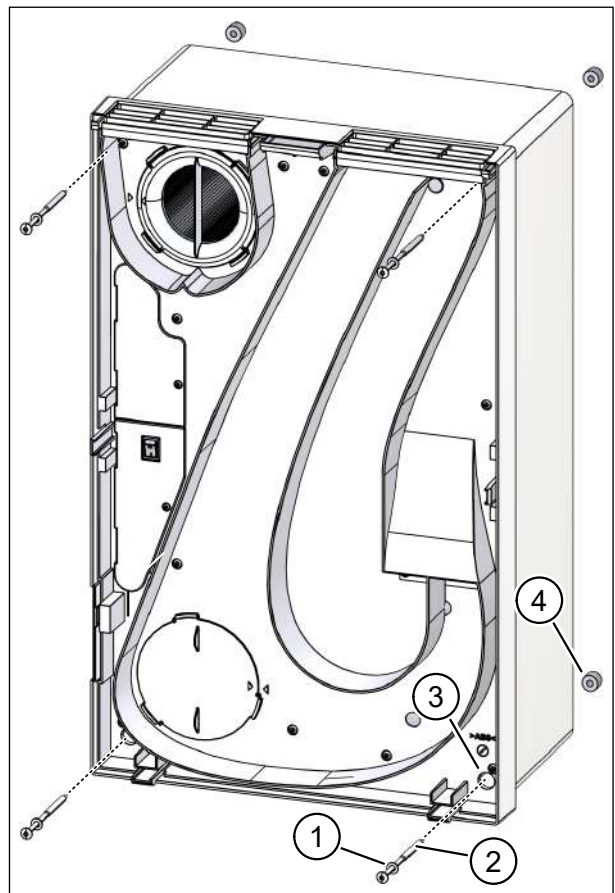

Fig. 33: Inserting the fixing screws
- ▶ Place the washers (item 1 in Fig. 33) on the cross-head screws (item 2 in Fig. 33) and introduce them into the holes in the housing (item 3 in Fig. 33).
- ▶ Screw the four centring guides (item 4 in Fig. 33) onto the four cross-head screws at the back until the tip of each cross-head screw protrudes roughly 10 mm over the centring guide.